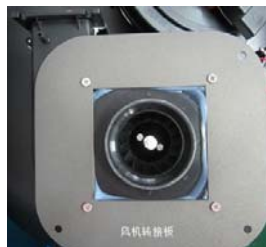

Fig 3-18 Connection bracket
- (2) Use four screws to fix the connection bracket onto the exhaust fan with a layer of sealing silicone, refer to fig 3-18.
- (3) Use four screws and nuts to fix exhaust fan and duct, the gap should be filled with sealing silicone.